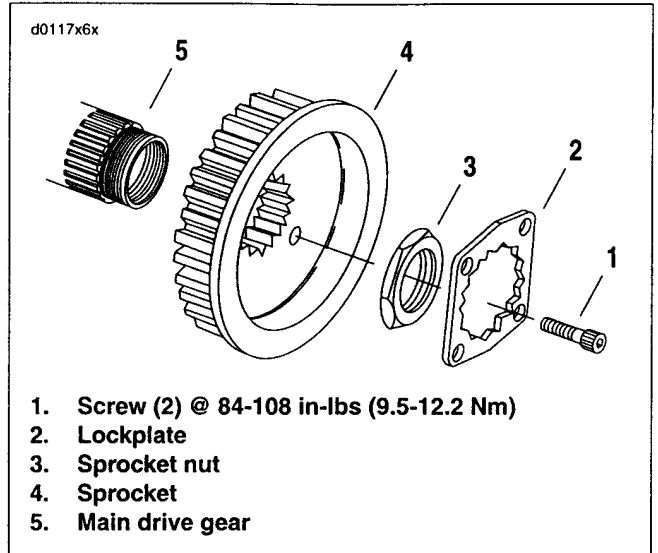

Figure 6-25. Transmission Sprocket
- a. See Figure 6-25. Remove both screws (1) and lockplate (2).
2. See Figure 6-25. Apply LOCTITE THREADLOCKER 262 (red) to sprocket nut (3) threads. Thread the sprocket nut counterclockwise onto main drive gear, with flanged side facing transmission sprocket.
- See Figure 6-25. Install screws (1) through two of the four holes in lockplate (2), then into two corresponding tapped holes in sprocket (4).